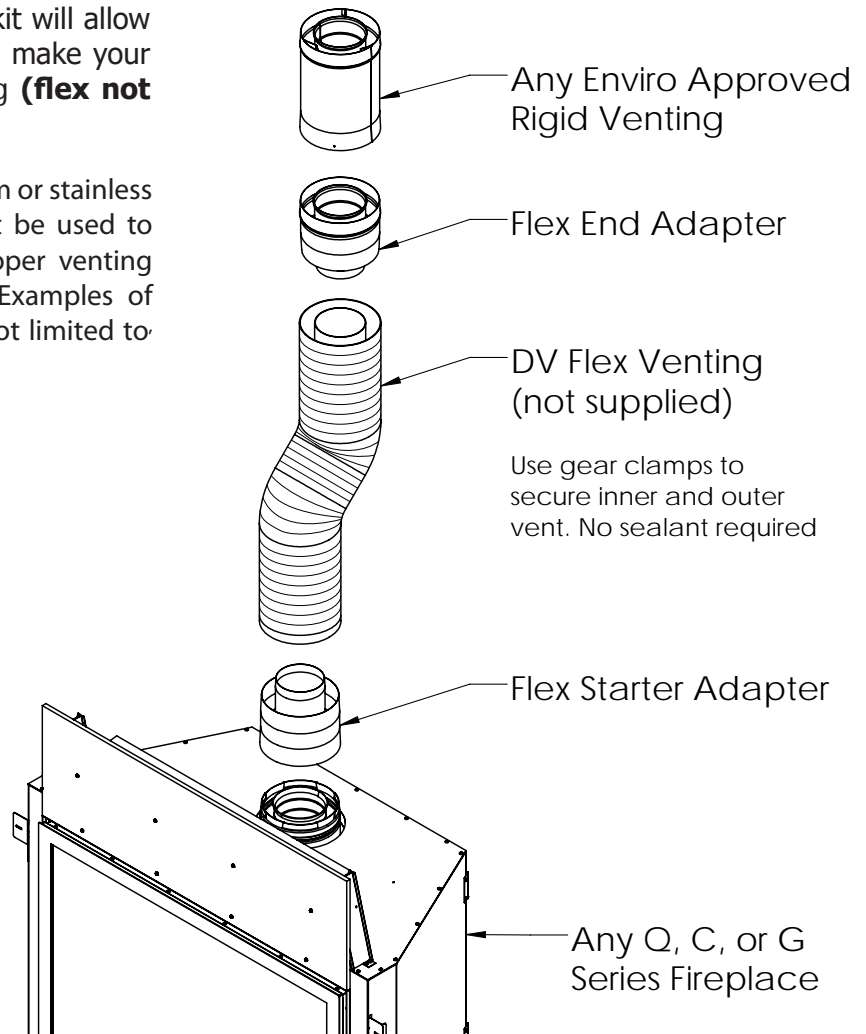

Figure 42. Flex Adapter Kit Install
- (2) When ever possible, use 45° degree elbows instead of 90° degree elbows. The 45° degree elbow offers less restriction to the flow of flue gases and intake air.
- (3) For multi story installations; a ceiling firestop is required at the second floor, and any subsequent floors (see Figure 42). The opening should be framed to **10" (254 mm) x 10" (254 mm)** inside dimensions, in the same manner as shown in Figure 39.